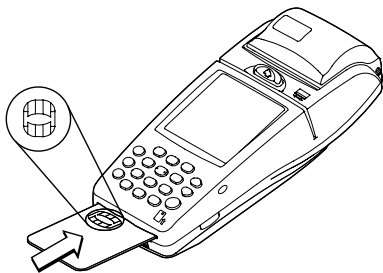

Figure B-1 Smart Card Reader
1. Verify that the chip end of the smart card is fully inserted with chip side up. See **Figure B-1 “Smart Card Reader”** on page 43.